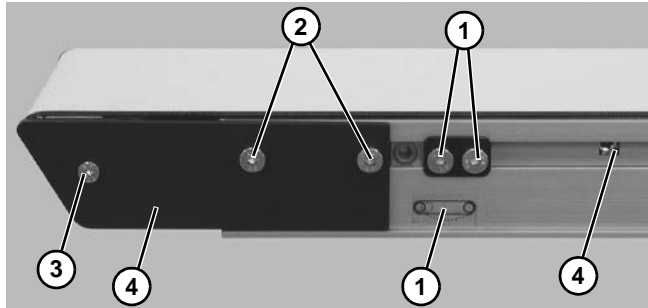

Figure 66
1. On both sides of conveyor, use a 4 mm hex-key wrench to loosen cam fastening screws (**Figure 66, item 1**) and slide cam assemblies toward the center of the conveyor.
2. On both sides of conveyor, use a 4 mm hex-key wrench to loosen head plate fastening screws (**Figure 66, item 2**) to remove belt tension. Then remove belt from end of conveyor.
3. On one side of conveyor, use a 3 mm and 4 mm hex-key wrench to remove head plate fastening screws (**Figure 66, item 3**) and (**Figure 66, item 2**) and remove head plate (**Figure 66, item 4**).
5. After replacing rollers, re-install head plate (**Figure 66, item 4**). Use a 3 mm hex-key wrench to tighten one (1) fastening screw (**Figure 66, item 3**) to 30 in-lb (3.4 Nm). Leave two (2) fastening screws (**Figure 66, item 2**) loose for belt tensioning.